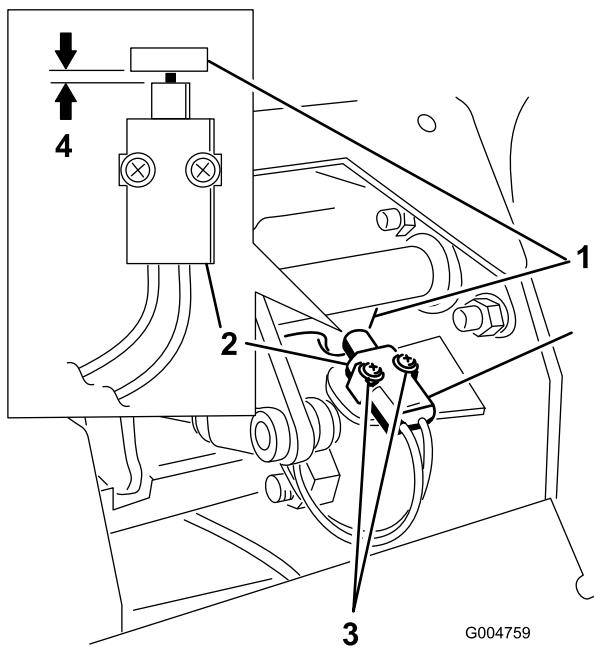

Figure 45
4. Move the switch toward the tab on the brake shaft until the distance between the tab and switch body is 0.015 to 0.045 inch (0.4 to 1 mm) (Figure 45).